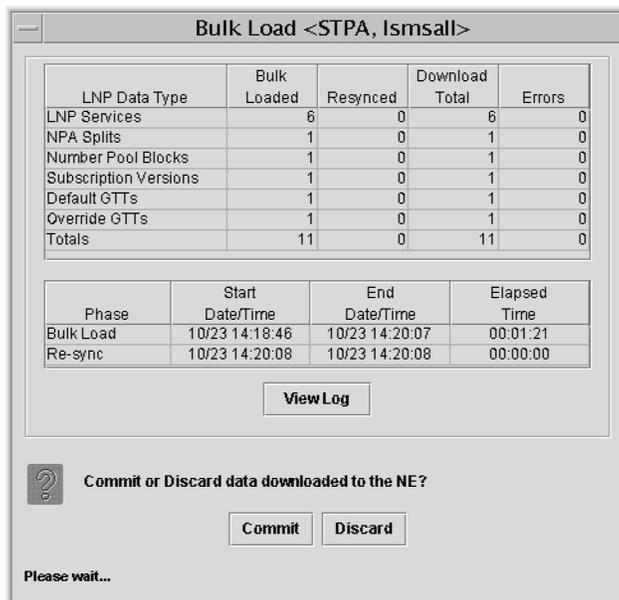

Figure 67: Bulk Load Complete
7. When the bulk load operation completes or is aborted, the **Abort** and **Close** buttons are replaced by **Commit** and **Discard** buttons, as shown in Figure 67: Bulk Load Complete.